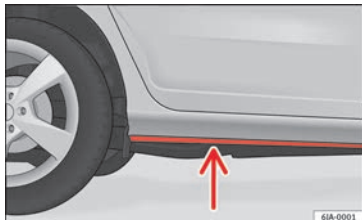

Fig. 180 Driving through water.
- Determine the depth of the water before entering. Water can reach a maximum height of below the door sill » **Fig. 180**.